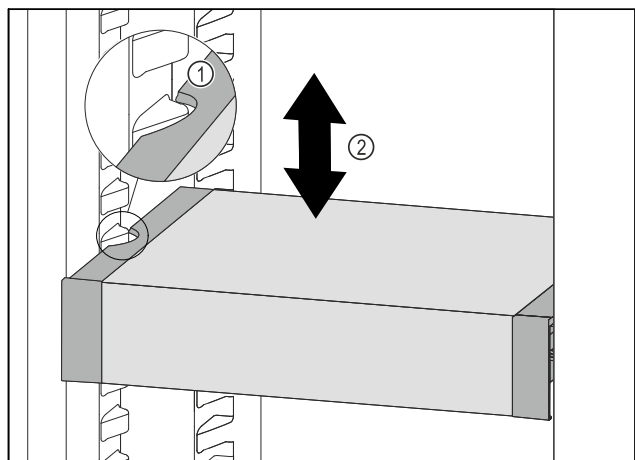

Fig. 118
- ▶ Pull VarioSafe forwards until the recesses in the side of the VarioSafe are at the level of the support rib in the refrigerator compartment. Fig. 118 (1)
- ▶ Move VarioSafe up or down in the refrigerator compartment until the desired height is reached. Fig. 118 (2)